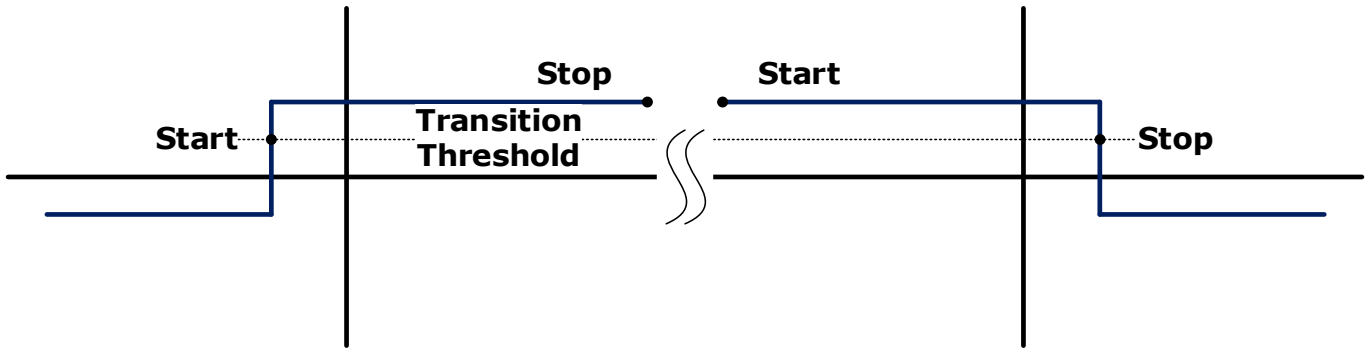

Figure 6.2 Step Waveforms
8. The process follows a similar procedure to locate the top amplitude (top line). The power range for the top histogram is 5 dB and the resolution is 0.02 dB, resulting in 250 levels. The level-crossing histogram is computed for a single pulse, using the samples which exceed the transition threshold. If only one transition exists in the buffer (Types 2 and 3), the process uses the samples that lie between the edge of the screen and the transition threshold as shown in Figure 6.2.